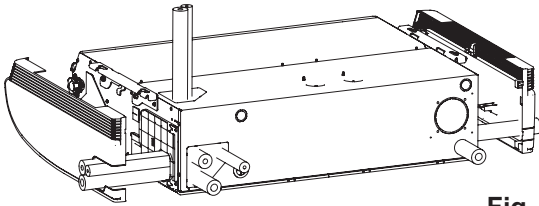

Fig. 1-47
- The positions of the refrigerant tubing connections are shown in the figure below. (The tubing can be routed in 3 directions.) (Fig. 1-47)
- \* If the drain hose is routed through the left side, refer to Fig. 1-47, and follow the procedure above to install the hose. Reattach the rubber stopper removed earlier onto the right side.